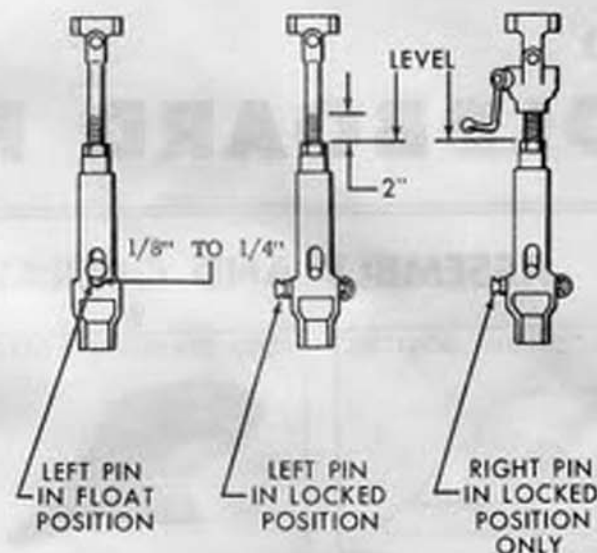

Figure 3 - Fordson Major Diesel Lift Rod Pins
**Leveling the Plow:** The side tilt of the plow is adjusted by turning the tractor leveling crank which raises or lowers the right hand tractor lift link. Before entering the field, adjust the right lift rod on Ford Tractors to the median mark or groove in the leveling shaft. On Fordson Major Diesel Tractors, adjust the left lift rod until approximately two inches of thread are showing, then adjust the right lift rod to the same length as the left. See Figure 3.
**NOTE:** When plowing with the Fordson Major Diesel Tractor, the right lift rod pin (see Figure 3) should always be in the locked position as shown. The left lift pin (Figure 3) may be placed in the float position, as shown, when plowing in uneven, rolling land or when using a four bottom plow.
If the left lift rod of the Fordson Major Diesel Tractor, is in the float position, as shown in Figure 3, raise the hydraulic control lever slightly until the pin floats approximately  $1/8$ " to  $1/4$ " above the bottom of the slot while plowing, then level the plow with the tractor leveling crank as described above. This adjustment when properly made will allow the plow to maintain a more uniform furrow depth, independent of the left rear tractor wheel on rough or rolling land. A plow that is properly set for pitch and level may still be throwing a light or heavy front furrow slice depending on the width of cut of the front bottom.